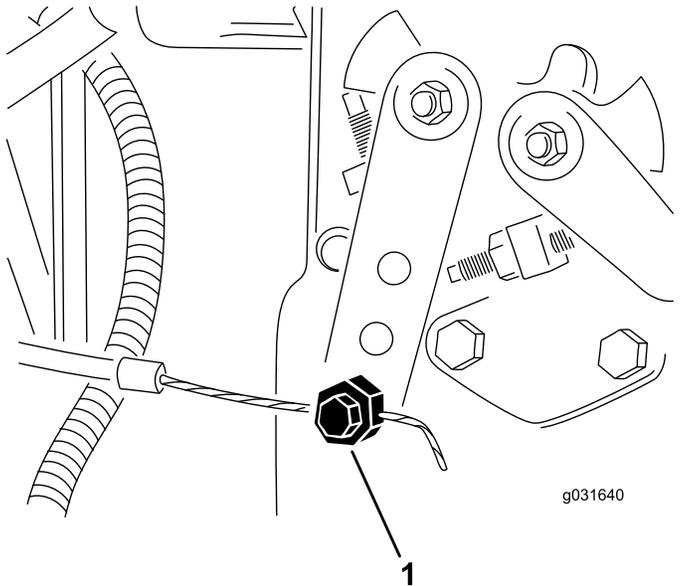

Figure 58
2. Loosen the throttle-cable connector on the injection-pump-lever arm (Figure 58).